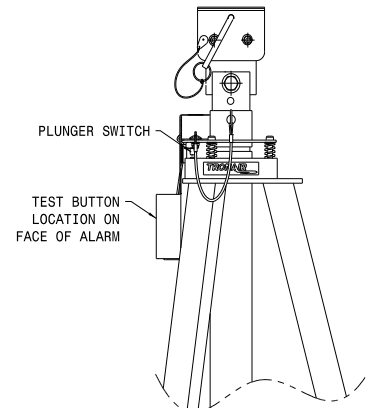

FIGURE 5
Depress plunger switch and hold for a minimum of two (2) seconds. This will sound the alarm if the electronic circuitry, horn and battery are operating correctly. Refer to Trouble Shooting section of this manual if test fails. **Reference Figure 5**
Depress test button and hold for a minimum of two (2) seconds. This will sound the alarm if the battery is installed correctly. **Reference Figure 5**